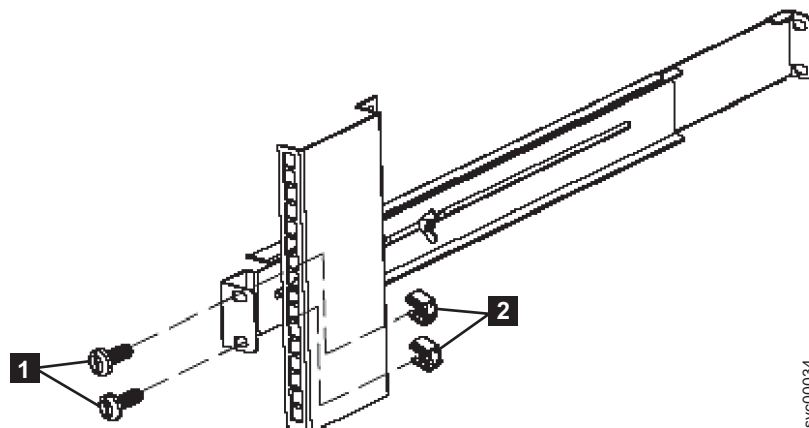

Figure 20. Securing the rear rail on the 2145 UPS-1U
7. Using two M6 × 10 screws (**1** in Figure 20) and two clip nuts (**2**), attach the rail to the rear of the rack. The customer's rack might be different than the one shown here, and if so, might require different clip nuts or fasteners.